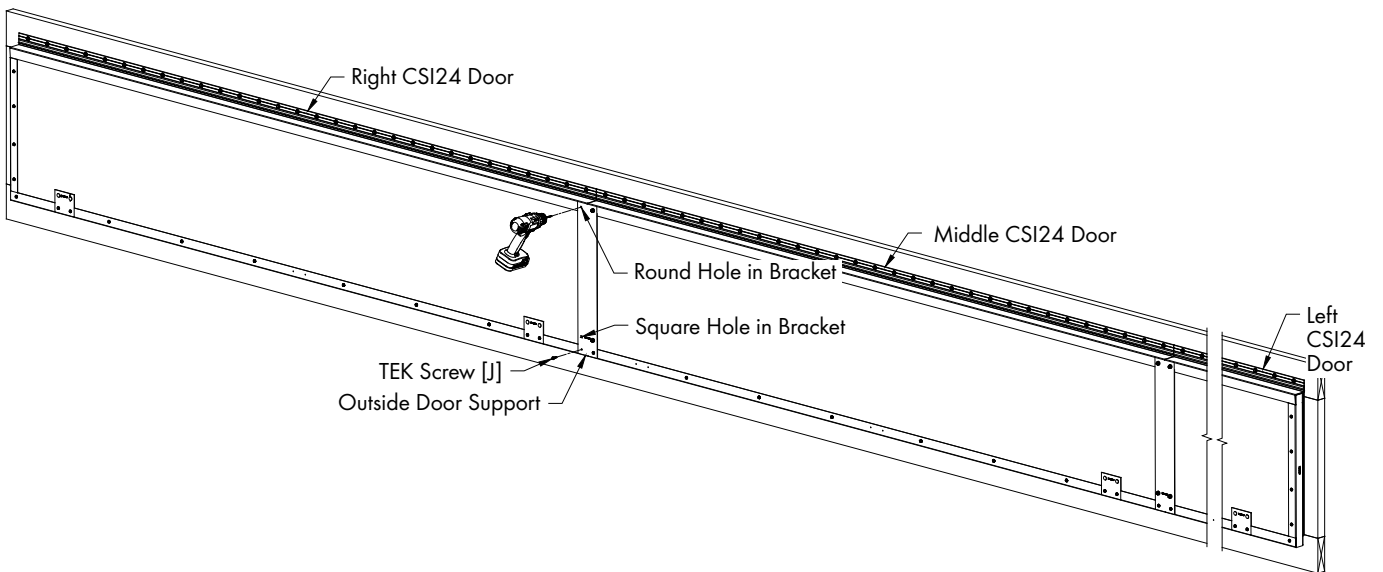

Figure 24
Secure Outside Door Support from Middle Door to Right Door using (1) TEK Screws [H]. Then using the round hole and square hole as a guide, drill (2) 3/32" holes through Middle Door. See Figure 24. Make sure the drill bit goes through straight and goes through the holes in the Inside Door support.